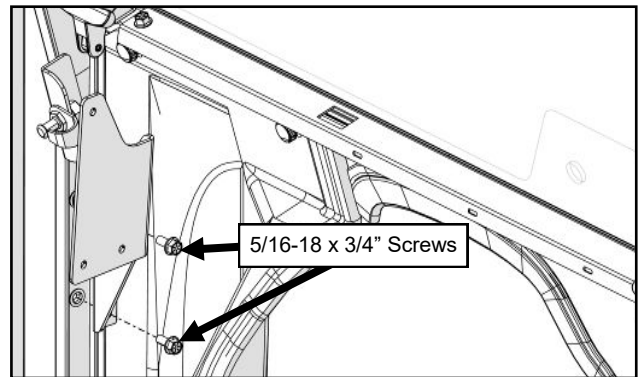

Fig. 16.1 (Install Heater Bracket to Side Frame)
- 16.1** Attach the heater bracket to the left side frame. See Figure 16.1. Fully tighten hardware at this time.